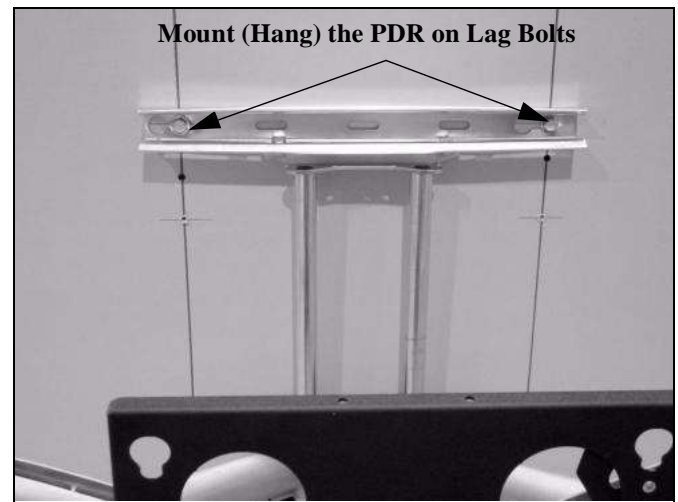

Figure 2
1. With an assistant, lift and hang the PDR on the two lag bolts and washers previously installed on the wall. (See Figure 2)